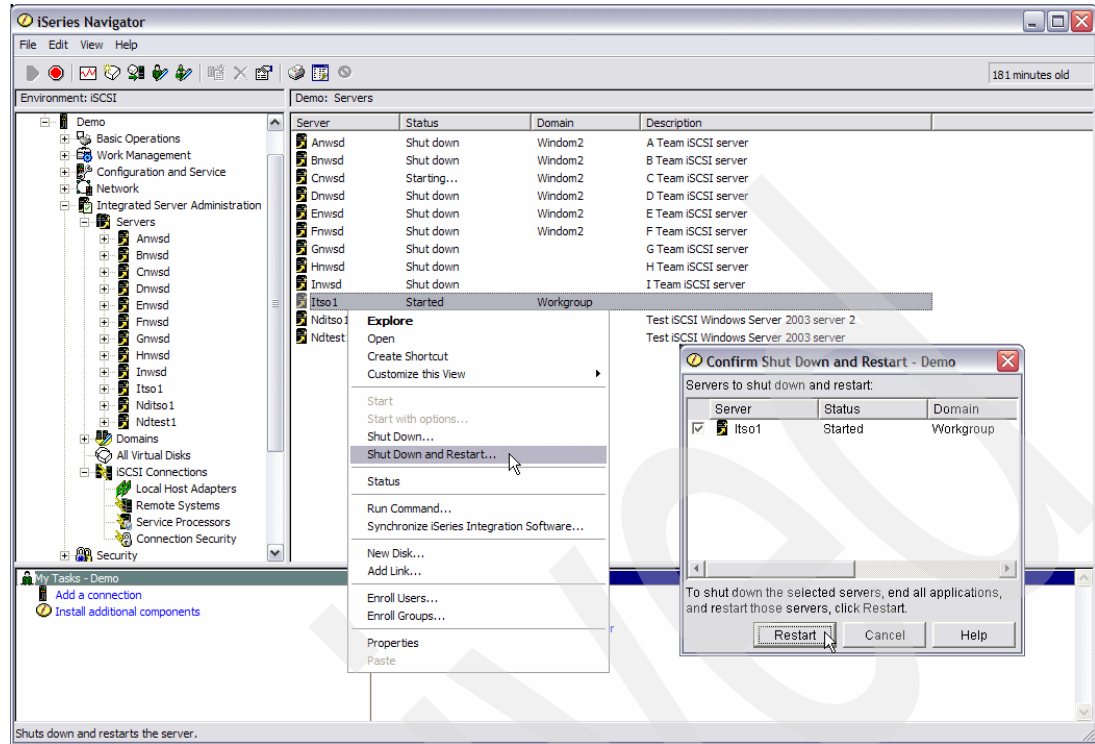

Figure 6-85 Shut Down and Restart integrated server
3. A Confirm Shut Down and Restart window opens (Figure 6-85 on page 235), you must click **Restart** to restart the server.